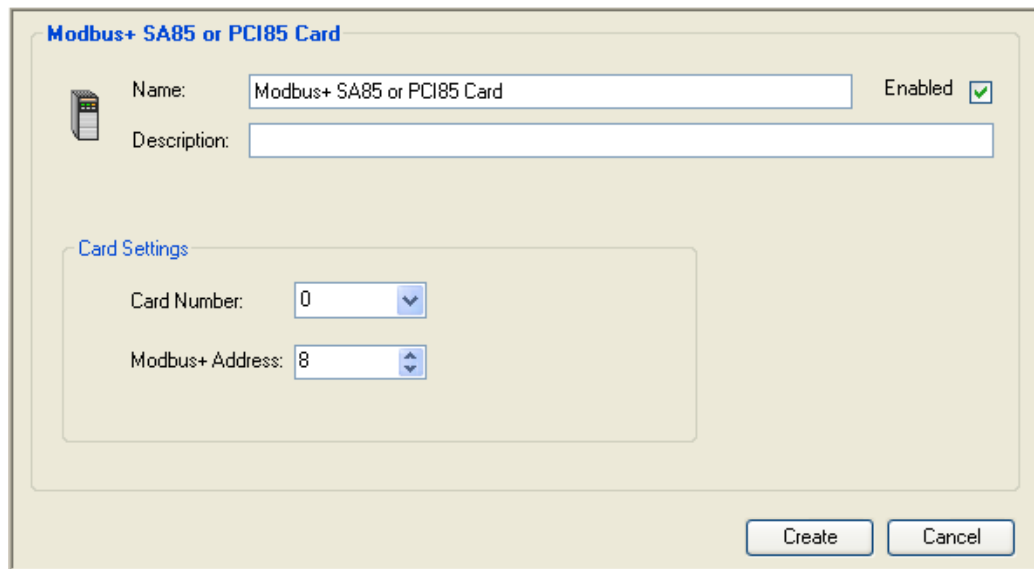

Figure 20 - Modbus+ SA85 or PCI85 Card Configuration Page
The **Modbus+ SA85 or PCI85 Card** configuration window (Figure 20) displays the settings available for a connection to a Modbus+ SA84 or PCI85 card.
- The **Modbus+ SA85 or PCI85 Card** configuration page (Figure 20) is displayed in the settings pane on the right side of the screen.